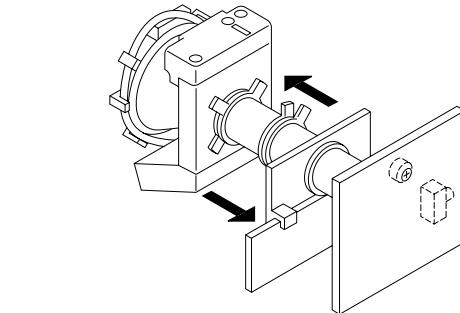

Fig. 5-2
- Move the deflection yoke forward and adjust so that the entire screen is green. (See Figure 5-2.)